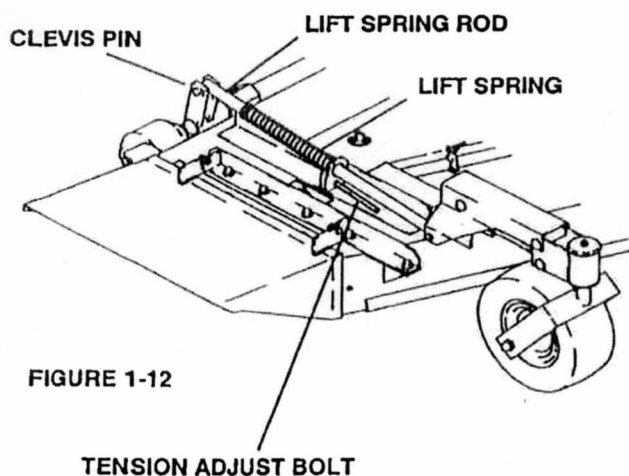

FIGURE 1-12
- Remove the clevis pin from the rear of the lift spring rod, on the high side. The lift spring rod is two parts one threaded into the other. Turn the lift spring rod counter-clockwise 2 turns. Reassemble clevis pin and re-measure. Repeat as required to achieve a difference of no more than $\frac{3}{16}$ " from one side to the other. See **Figure 1-12**.